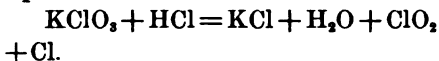

Fig. 45.
3. To 4 or 5cc of indigo sol. in a small t.t. add a very little euchlorin, drop by drop, noting any change, and when that takes place at the top, invert the tube (Fig. 45). Describe and explain.